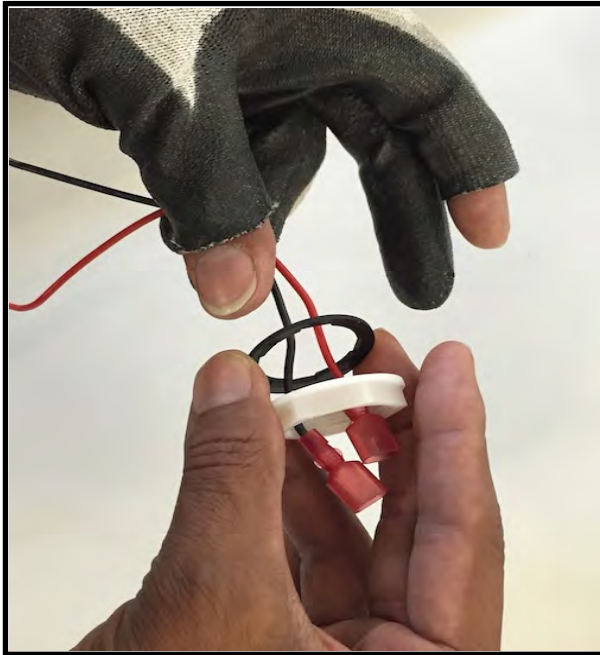

Figure 7
10. Feed the power and ground wires through the lock washer and nut. The lock washer goes on first. See Figure 7.